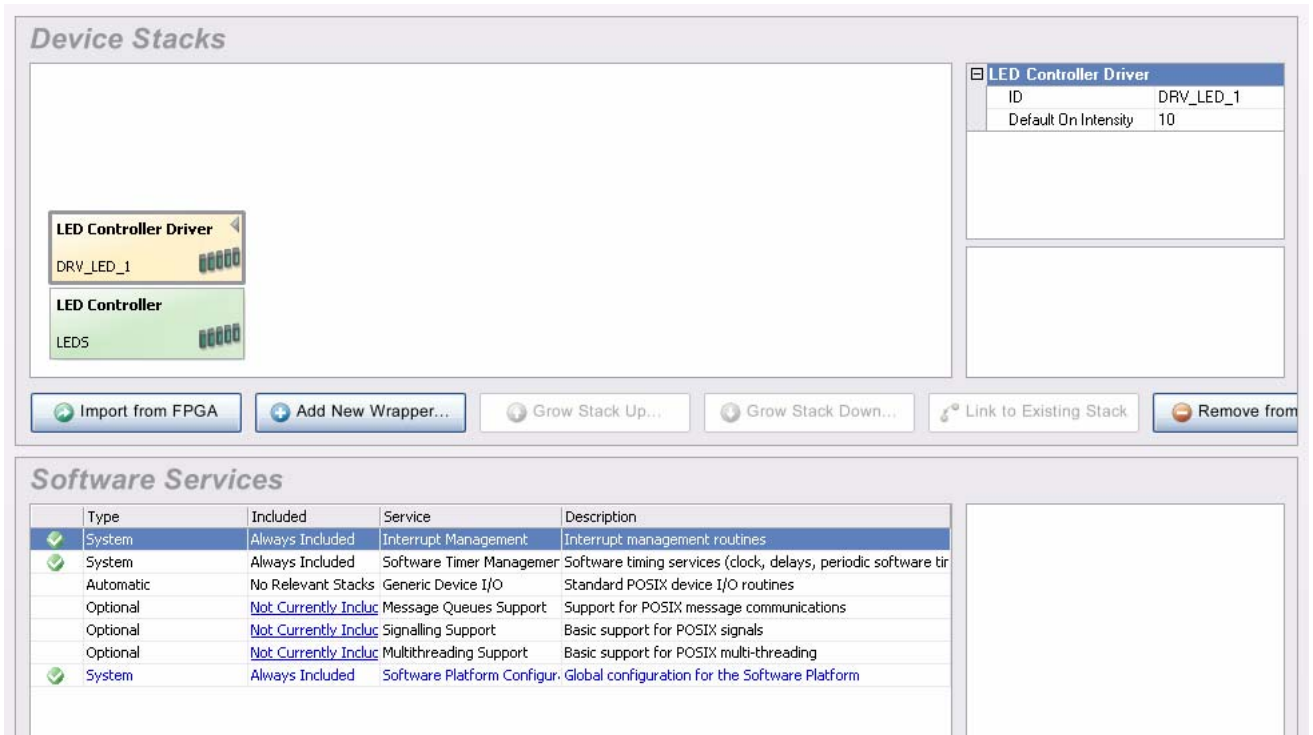
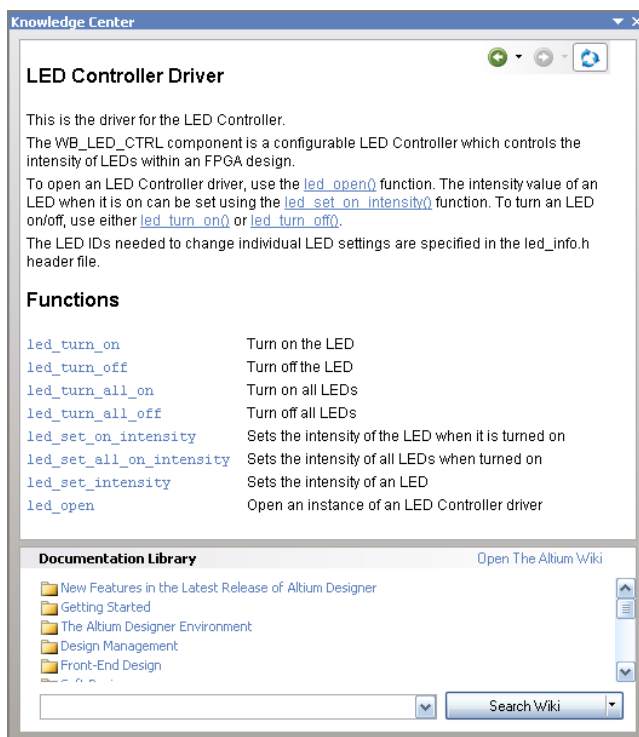

Figure 17. The I/O wrappers and low-level drivers are managed by the Software Platform.
Figure 18. LED Controller Driver reference.
47. The *Grow Stack* dialog will open, showing the software stack that is available, **LED Controller Driver**. Click to select it, and click **OK** to close the dialog. The Device Stack should now appear as shown in Figure 17.
49. In the file `uP_KnightRider.SwPlatform` select the LED Controller Driver as shown in Figure 17 and press **F1**. You should see the Knowledge Center panel open with the LED Controller Driver details shown as in Figure 18.